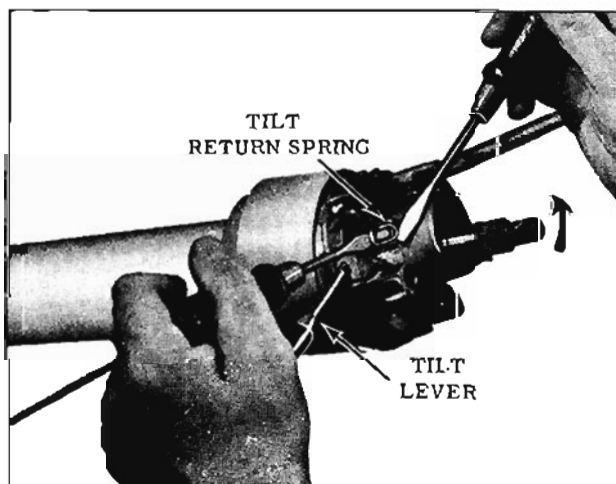

Fig. 8-97 Removing Tilt Return Springs
7. Install the tilt lever and lift up so the column will go to the full up position, then unhook the upper ends of the two tilt return springs by inserting a small bladed screwdriver through the upper coil and lifting up. (Fig. 8-97) It may be necessary to use another screwdriver to unhook the spring as shown. Installer Tool J-21181 may be required to remove the right hand return spring.